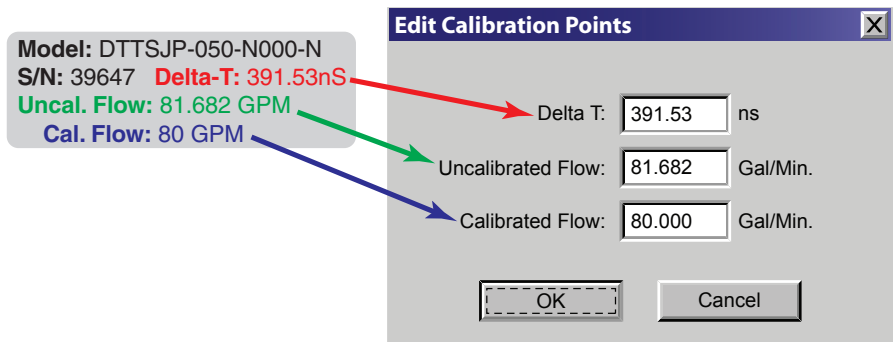

Fig. 16 Edit Calibration Points
- 7) Enter Delta T, Uncalibrated Flow, and Calibrated Flow values from the UTT10-015S to UTT10-040S calibration label, then click OK. See *Fig. 16*.